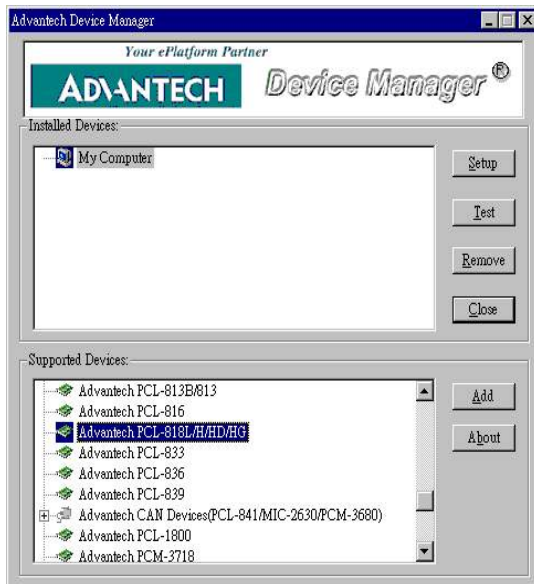

Figure 2.3: Device Manager
Step 2: You can then view the device(s) already installed on your system (if any) on the Installed Devices list box. Since you have not installed any device yet, you might see a blank list such as the one below (Fig. 2-3).